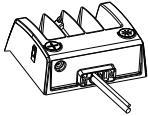

Fig. 4
- 2.) If there is an existing mounting bracket, other than the yoke mount (i.e. threaded knuckle mount), remove it from the fixture (**Fig. 4**).